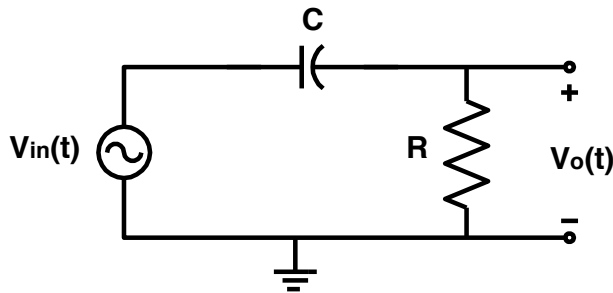

Fig. 2A. First order high pass filter (integrator)
1. For the circuit shown in Fig. 2A, derive the transfer function for  $v_o/v_{in}$  in terms of  $R$  and  $C$ , and find the expressions for the magnitude and phase responses. Express your results in the form
2. Build the RC high pass circuit shown in Fig. 2A using the  $R$  and  $C$  values designed in the pre-laboratory exercise. Obtain the frequency response of the filter using the bode analyzer SFP as shown in part C.